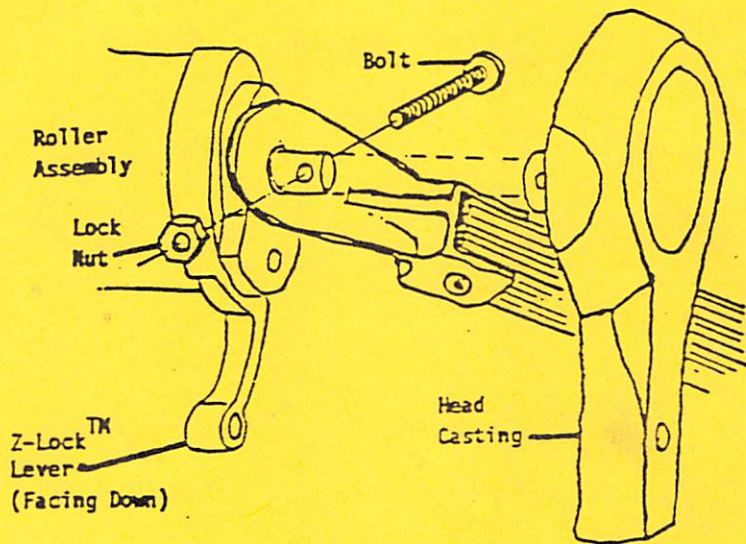
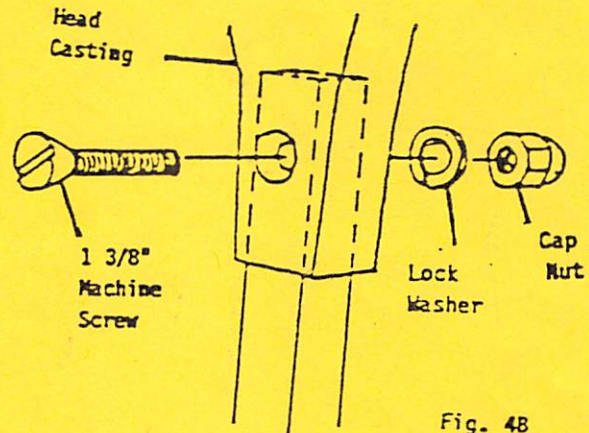
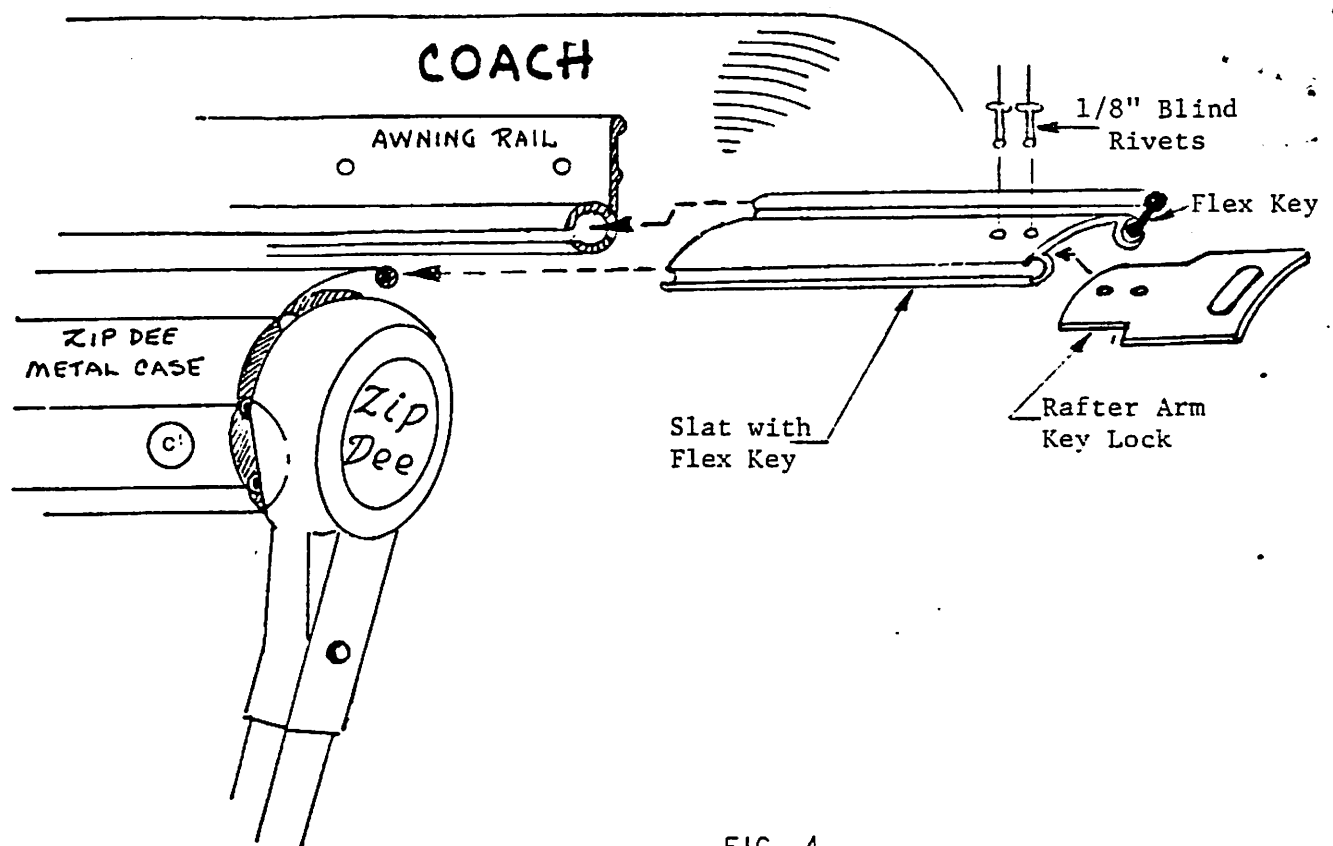

Fig. 4A
Fig. 4B
FIG. 4
- B. Attach rafter arm bar to roller shaft. To correctly orient teeth on bar, slide link onto shaft fin side facing outward as shown in Fig. 4A
- F. Insert head casting onto each main arm bar. Secure with 1/4" - 20 x 1 3/8" flat head machine screw, lock washer and cap nut. (See Fig. 4B) Test to insure bar is secured by bolt.
- B. Remove rafter arm key locks (Fig. 4A) and connecting key (Fig. 4B) from each end of case as shown in Figure 4. Discard the key locks.
- G. Insert the slotted rafter arm key locks (packed in the parts bag) into end of core and secure with (2) 1/8" stainless steel blind rivets (Figure 4).